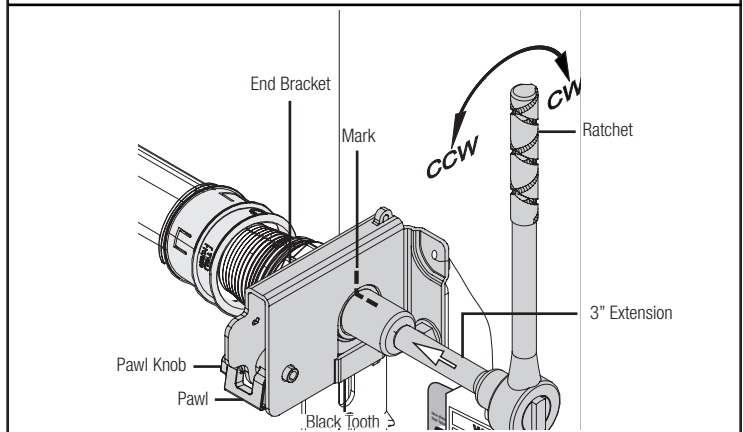

FIG. 1.3
**IMPORTANT:** PAWL KNOB MUST BE IN UPPER POSITION TO REMOVE SPRING TENSION, AS SHOWN IN FIG. 1.3.
**STEP 4:** To remove spring tension, place a ratchet with a 5/8" socket on the winding shaft, as shown in Fig. 1.3.